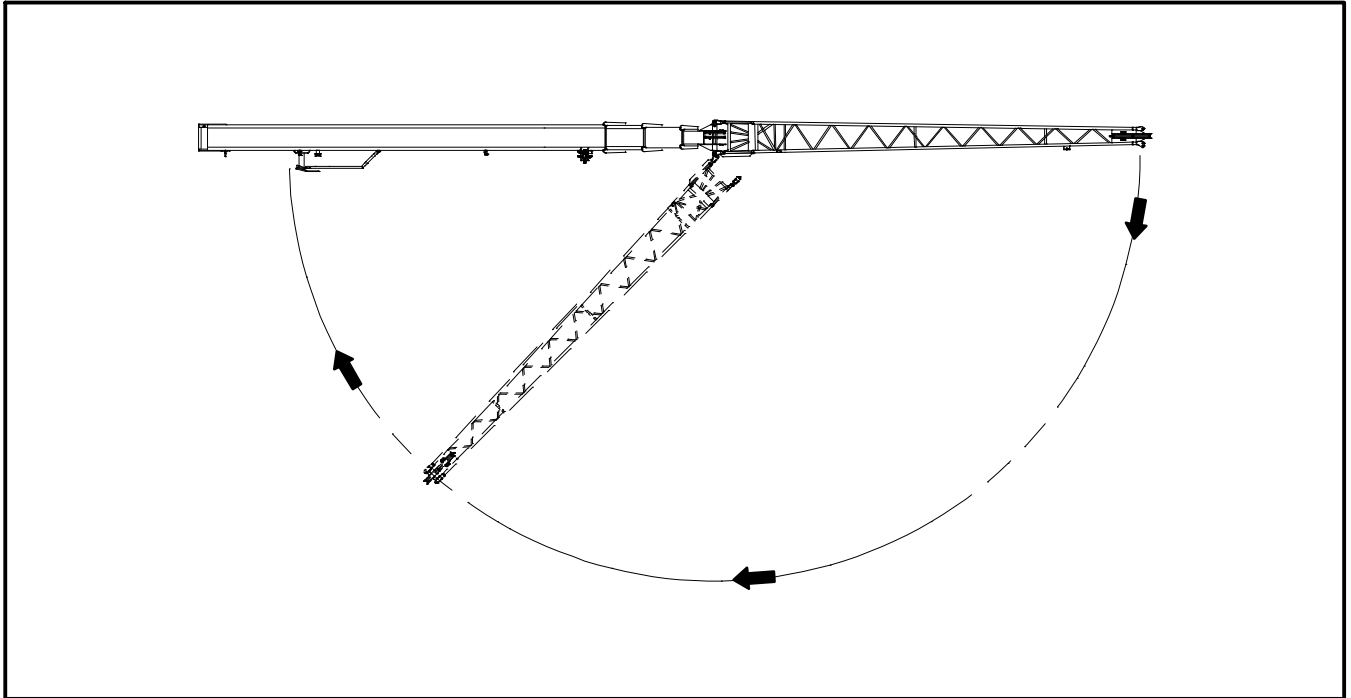

Figure 4–25
12. Remove the inside bottom right fly connecting pin on the right side of the fly. To reduce loading and ease pin removal, push the fly to the right. Refer to Figure 4–24. Remove the inside top right fly connecting pin on the right side of the fly. To reduce loading and ease pin removal push the fly to the left. Store the two pins and keepers in the storage rings on the rear right side of the fly.
14. Slowly swing the fly around to the right side of the boom while slowly booming up to 50°. Refer to Figure 4–25.
15. Extend the boom until the fly storage lug can swing completely against the rear storage bracket. Refer to Figure 4–26.